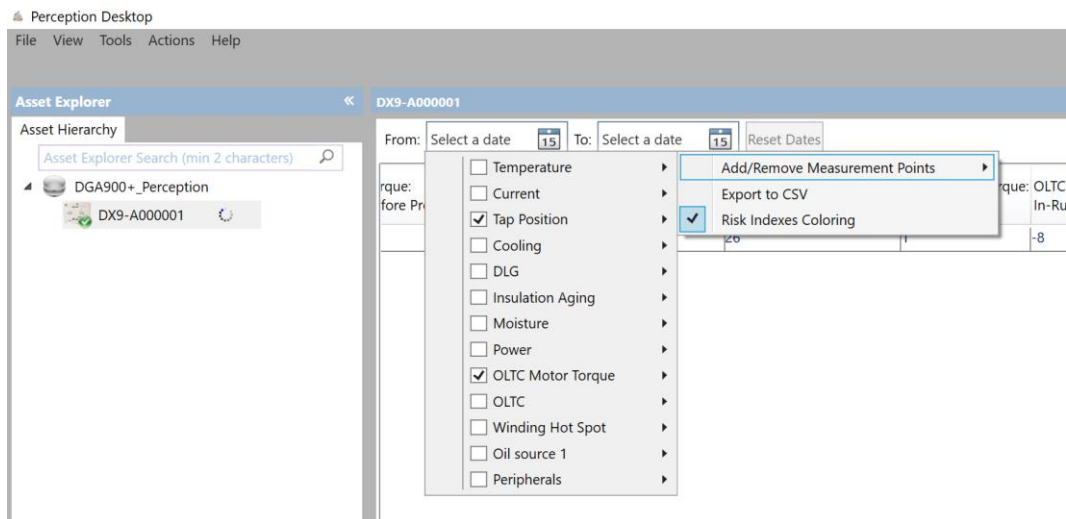

Figure 10-12: Add / Remove Measurements Points > Tap Position & OLTC Motor Torque
11. Select **Tap Position** and **OLTC Motor Torque** as shown in Figure 10-12.